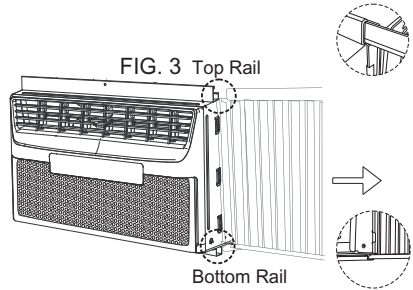

FIG. 3 Top Rail
- C. Once the panel has been installed on the side of the cabinet, make sure it sits securely inside the frame channel by making slight adjustments. Slide the top and bottom ends of the frame into the top and bottom rails of the cabinet. See FIG. 3.